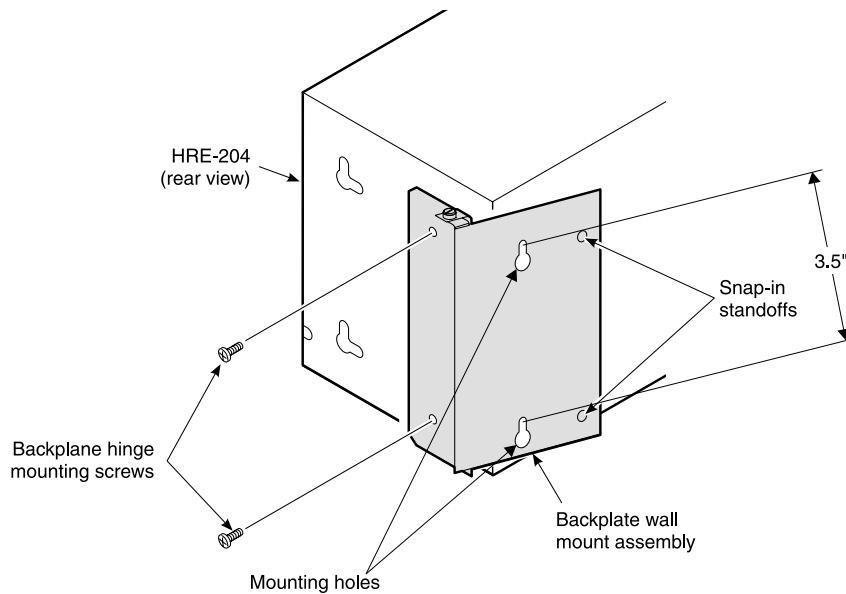

Figure 7. *Optional Mounting Hinge*
- 3 Use the two 6-32 x $\frac{1}{4}$ -inch machine screws, supplied with the hinge assembly, to attach the hinge to the two mounting holes on the HRE-204 backplate, as shown in Figure 7.